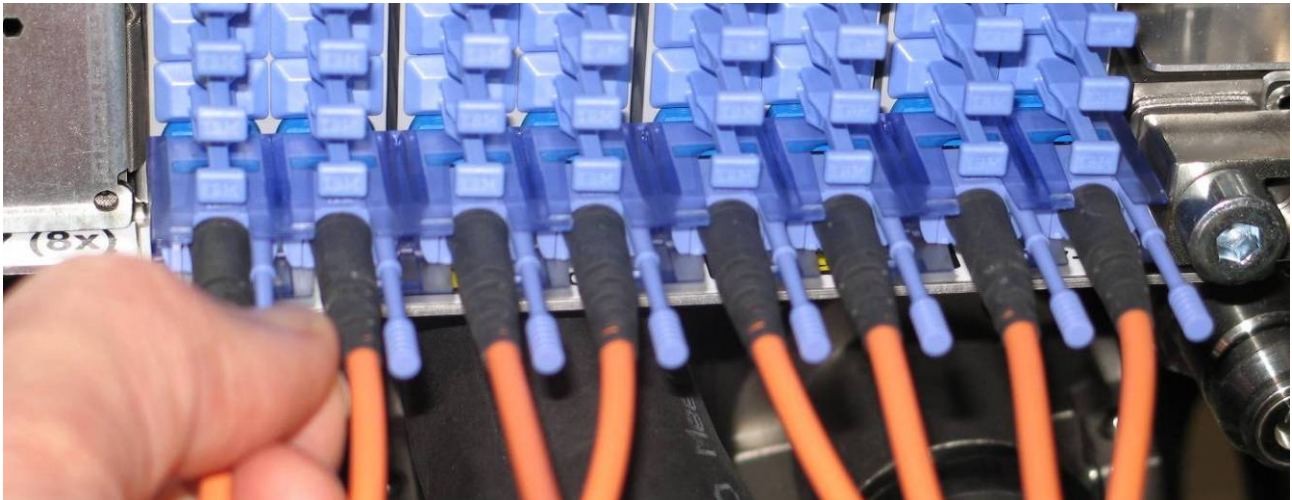

Figure 42 D-Link Grouper Installation
STEP 69 Re-install the D-Links and cable support brackets starting from the bottom most position, refer to Figure 42